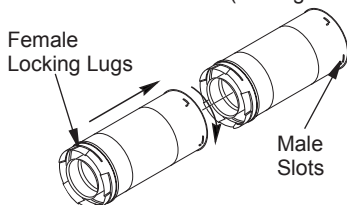

Figure 10 - Vent Pipe Connections
Twist-Lock Procedure: Female ends of pipes have locking lugs (indentations). These lugs will slide straight into matching slots on male ends of adjacent pipes. Push pipe sections together and twist one section clockwise approximately one-quarter turn until sections are fully locked (see Figure 10).
2. Assemble desired lengths of pipe and elbows necessary to reach from fireplace flue up through firestop. Be sure all pipe and elbow connections are fully twist-locked (see Figure 10, page 11).